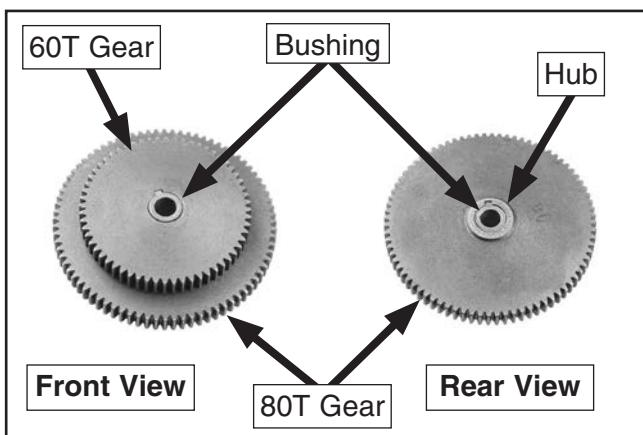

Figure 81. 80T and 60T gears connected.
14. Connect 80T and 60T gear with keyed bushing, as shown in **Figure 81**. The 80T gear hub faces out; the 60T gear hub faces the 80T gear.